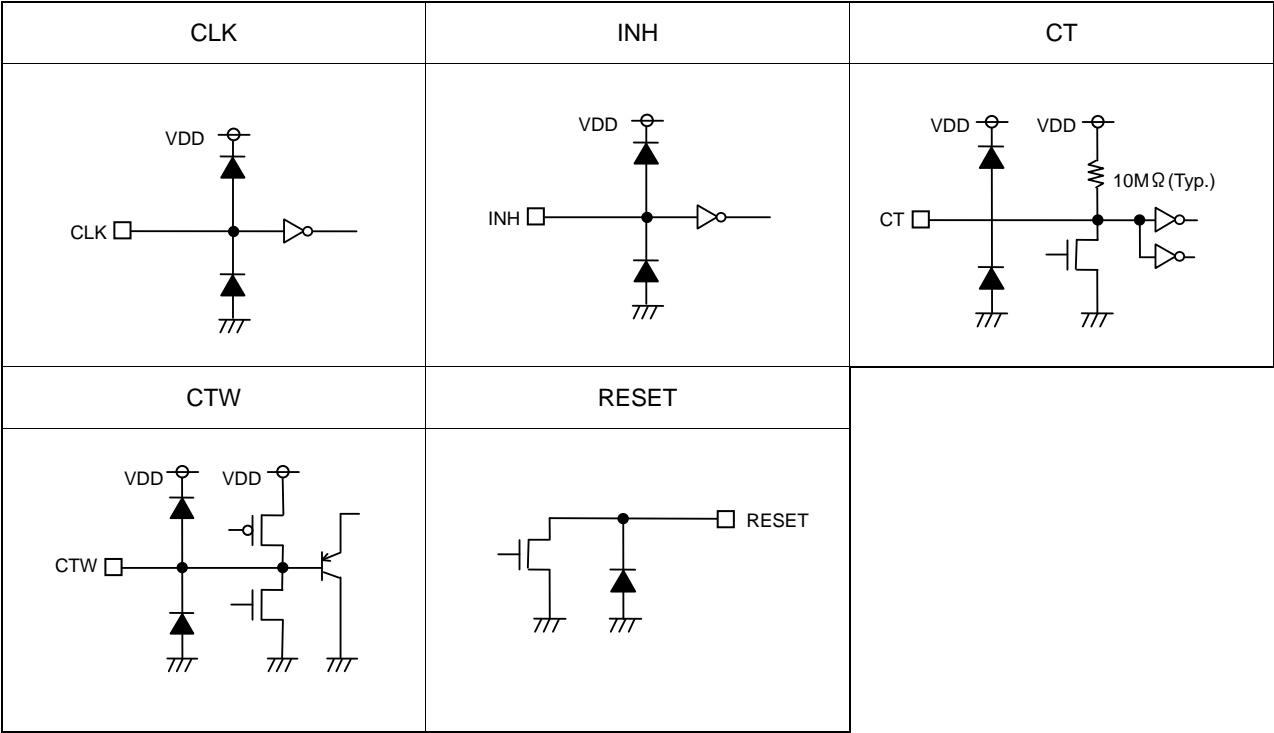

Figure 17. I/O equivalence circuit
| 25.Apr.2013 | 002      | P.8 Explanation ⑨ modified.P.9 Figure 17. I/O equivalence circuit the error in writing of the part of CLK was corrected. |